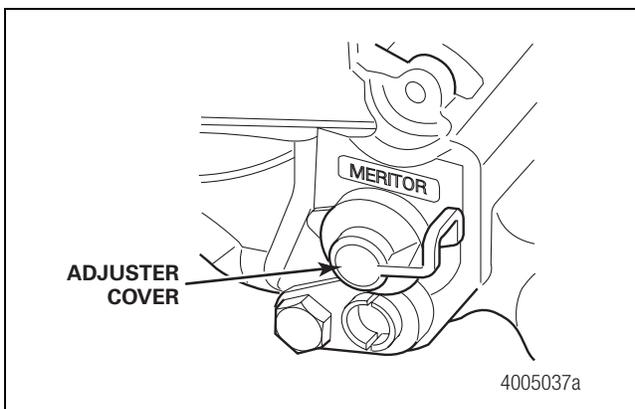

Figure 4.18
1. Remove the adjuster cover. Figure 4.18.